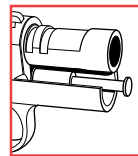

Figure 57-1
1. Lock slide to the rear. (See fig. 57-1)